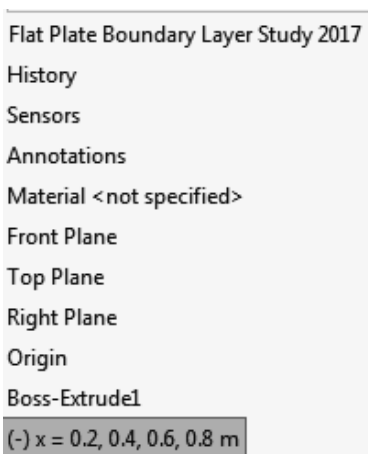

Figure 2.8 Renaming the sketch for boundary layer velocity profiles
- Repeat steps 6 and 7 three more times and add three more vertical lines to the sketch: the second line at X = 400 mm with a length of 40 mm, the third line at X = 600 mm with a length of 60 mm and the fourth line at X = 800 mm with a length of 80 mm. These lines will be used to plot the boundary layer velocity profiles at different streamwise positions along the flat plate. Close the **Line Properties** dialog and the **Insert Line** dialog. Save the SOLIDWORKS part with the following name: **Flat Plate Boundary Layer Study 2017**. Rename the newly created sketch in the **FeatureManager design tree**; see figure 2.8. You will need to left click twice to rename the sketch.